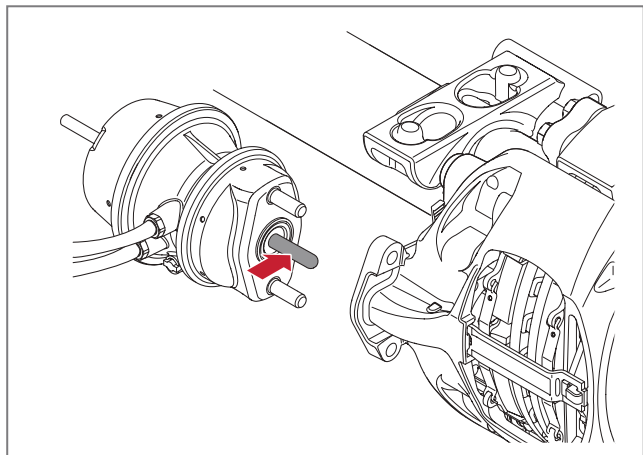

Fig. 25 - Piston rod
7. With the brake chamber removed and secured, the brake chamber piston rod should protrude approx. 15 mm in its rest position, see ► **Fig. 25**.